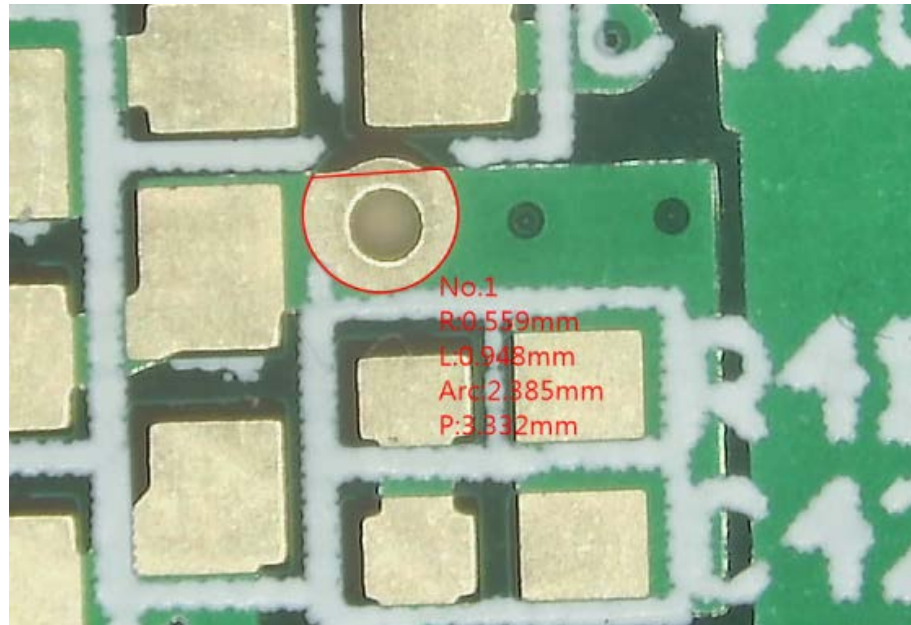

Fig 5-9 Target Arch area
- (5) Arch: Apply  to measure Arch, see Fig. 5-9. Arch follow to o'clock direction. Need be careful to 1st click and 2nd click sequence. 1st click at the edge of measuring object and then 2nd click on the other side, continue moving Mouse till Arch area match the measuring object, finalize 3rd click. Below measuring data show radius is R=0.559mm, chord is L=0.948 mm, arch is Arc=2.885mm, perimeter is P=3.832mm.